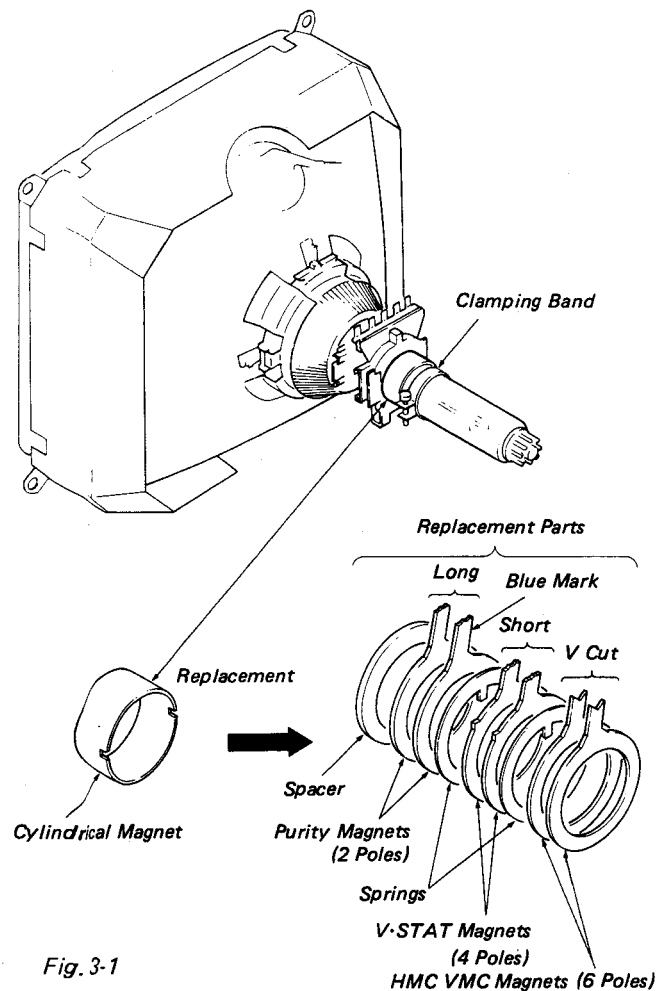

Fig. 3-1
2. Mount the replacement parts and clamping band, which are contained in the package box containing the picture tube, in the position from which the cylindrical magnet was removed. (See Fig. 3-1.)